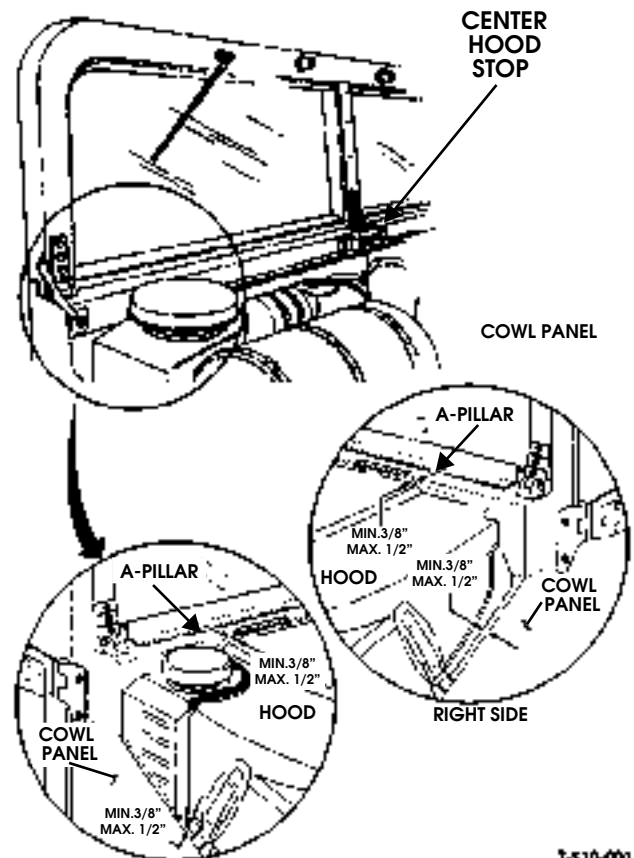

Figure 10-85: Center Hood Stop Location
2. Open hood and loosen center hood stop (Figure 10-85).
4. Gently position hood to obtain proper and even clearance with A-pillar and both front cowl panels (minimum 3/8" / maximum 1/2") (Figure 10-85).
5. Tighten lower hinge half locknuts to lock adjustment. Open hood gently and position guide bracket assembly to contact center hood stop. Gently close hood to check guide bracket assembly position (Figures 10-85 and 10-87).